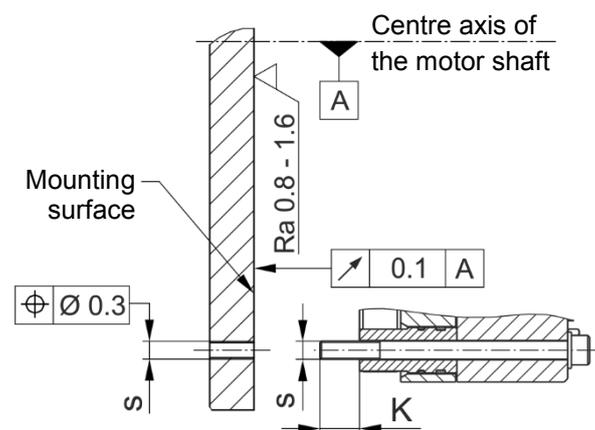

Fig. 5
- The mounting dimensions and the tapped holes  $s$  with depth  $K + 2$  mm ( $K$  = screw projection) according to the applicable assembly drawing must be given (Fig. 5).
- The O-ring (8) must be lightly greased.
- The toothings of the motor shaft and the rotor (3) must not be oiled or greased.